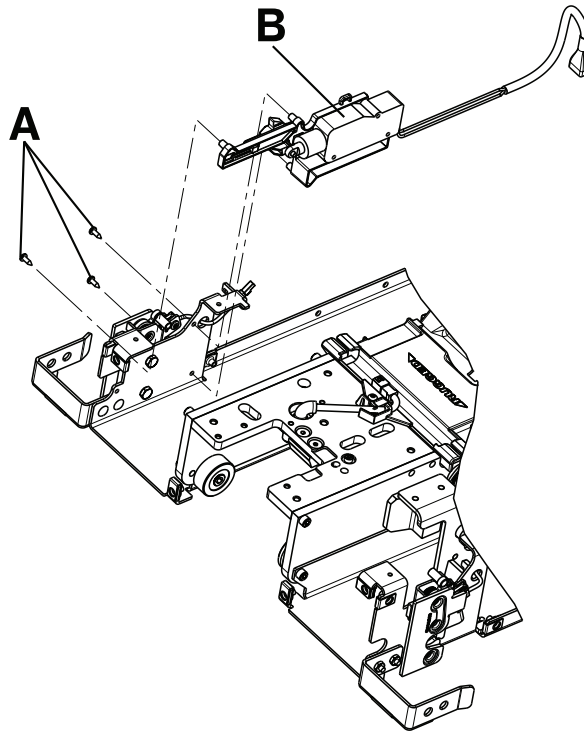

Figure 12: Trolley actuator assembly
- Using a T20 Torx driver, remove the three delta screws (A) that secure the trolley actuator (B) to the trolley frame (Figure 12 on page 47).